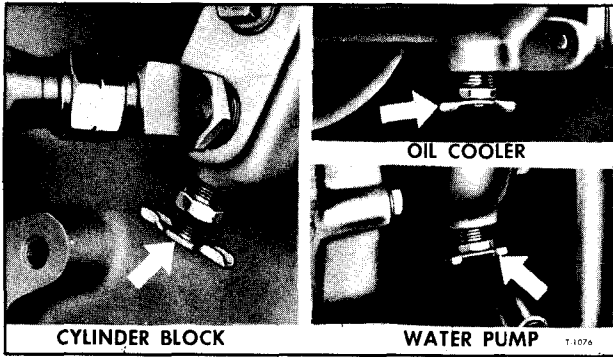

Figure 5—Cylinder Block, Oil Cooler, and Water Pump Drain Points (6-71 Diesel Engine)
- a. On models with 6-71N engines, open drain cocks at bottom of thermostat housing (if equipped), water pump, oil cooler, and cylinder block at rear of blower below fuel pump (fig. 5).